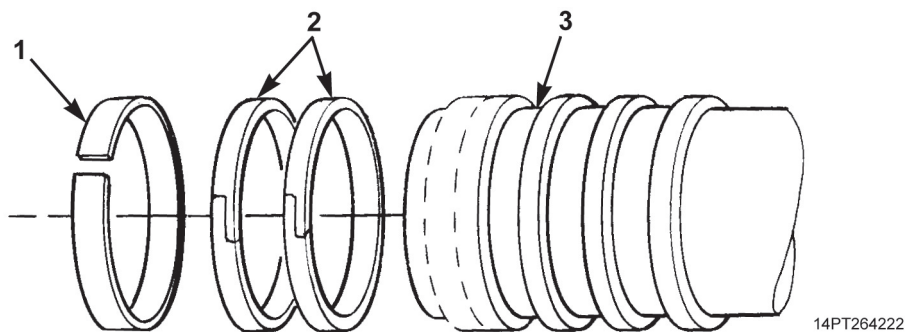

Figure 21. Wear Ring and Piston Ring Installation.
2. With hydraulic cylinder components in horizontal position, install two piston rings (Figure 21, Item 2) and new wear ring (Figure 21, Item 1) on sleeve (Figure 21, Item 3).